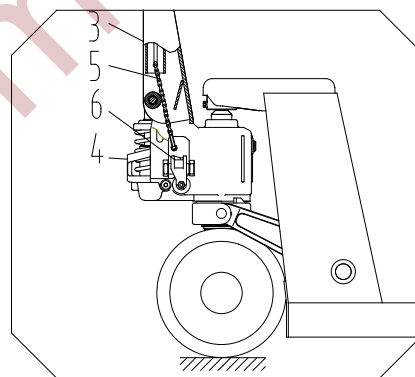
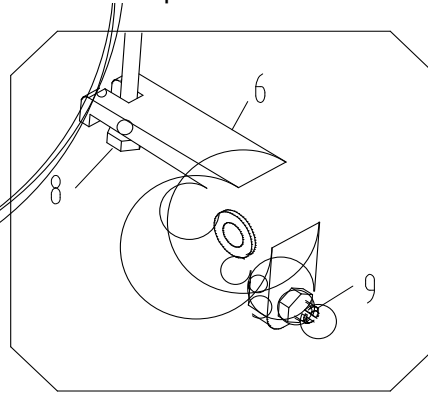

Fig.2
Fig.4
3.3 See fig 2. Put the chain 4 of hand grip get across the middle hole of pin roll 2.
3.4 Take screw nut which is at the end of chain 5 and hitch the groove of lever board 6. See fig 2 and fig 4.
- 4.2 The screw 9 in fig 4 is used to adjust the truck situation. When the truck body drops immediately after it is lifted, you should turn the screw 9 a little counter-clockwise. And then try the truck again until truck body could lift normally. If the truck body couldn't drop after it is lifted, you should turn the screw 9 a little clockwise. And then try to operate truck again until the truck body could drop normally. The external hexagon nut 10 at screw 9 plays the locking function in the truck. So you should undo the external hexagon nut 10 before adjustment. And screw down the nut 10 after you finish the adjustment.